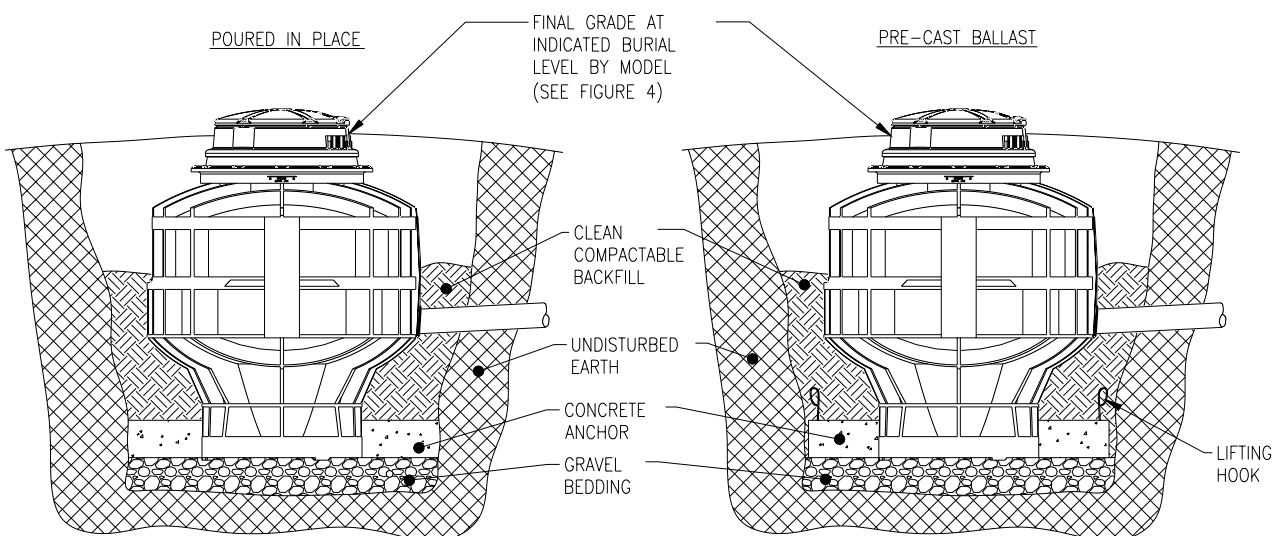

Fig. 2 - Tank Installation
2. Site Excavation (Figure 2)
Alternatively, precast concrete, around the tank bottom, may be used for ballast (Figure 2). Do not pour ballast above the intended inlet location. If this ballast method is used, lifting hooks must be anchored in the concrete to support subsequent handling of the tank. The lifting hooks must be adequate to support the combined weight of the tank and concrete ballast, and should be sized and installed in accordance with the site engineer's recommendation. Place the ballasted tank in the excavated hole using the lifting hooks. **Do not lift by any of the tank surfaces if precast ballast is utilized.**